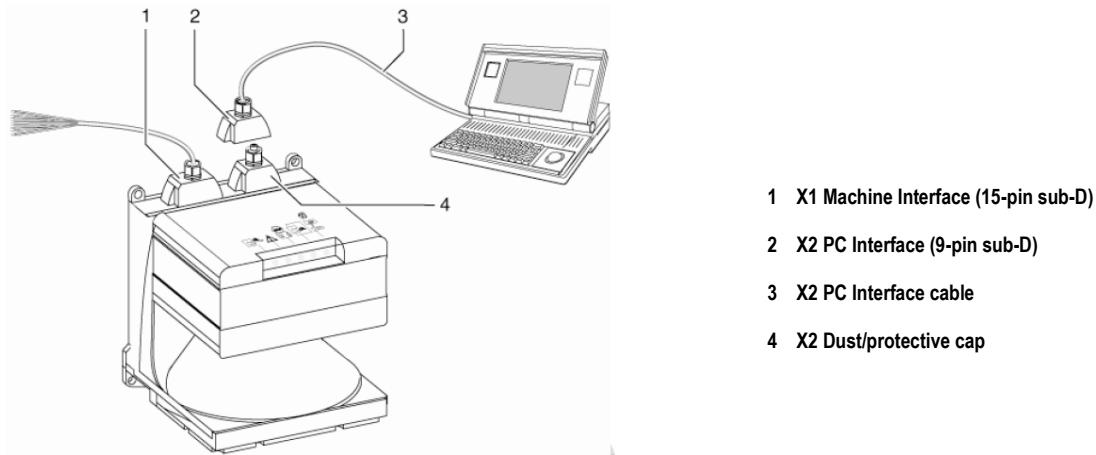

Figure 3-16. Scanner Interconnections
- If a Warning Field is used:** (with the guarded machine at rest) using the appropriate test piece (that matches the configured/expected resolution) interrupt the Warning Field perimeter and verify LED #2 (Yellow) turns ON as expected. Remove the test piece and verify that LED #2 turns OFF. Repeat this along the entire Warning Field perimeter as shown in Figure 3-16. Pay special attention at needle and cone-shaped areas (see Section 3.3.1).
- With the appropriate test piece (that matches the configured/expected resolution) interrupt the perimeter of the Protected Field and verify LED #1 (Green) turns OFF. Remove the test piece and verify that LED #1 turns ON. Repeat this along the entire Protective Field perimeter (see Figure 3-16 below) and verify that the configured field: